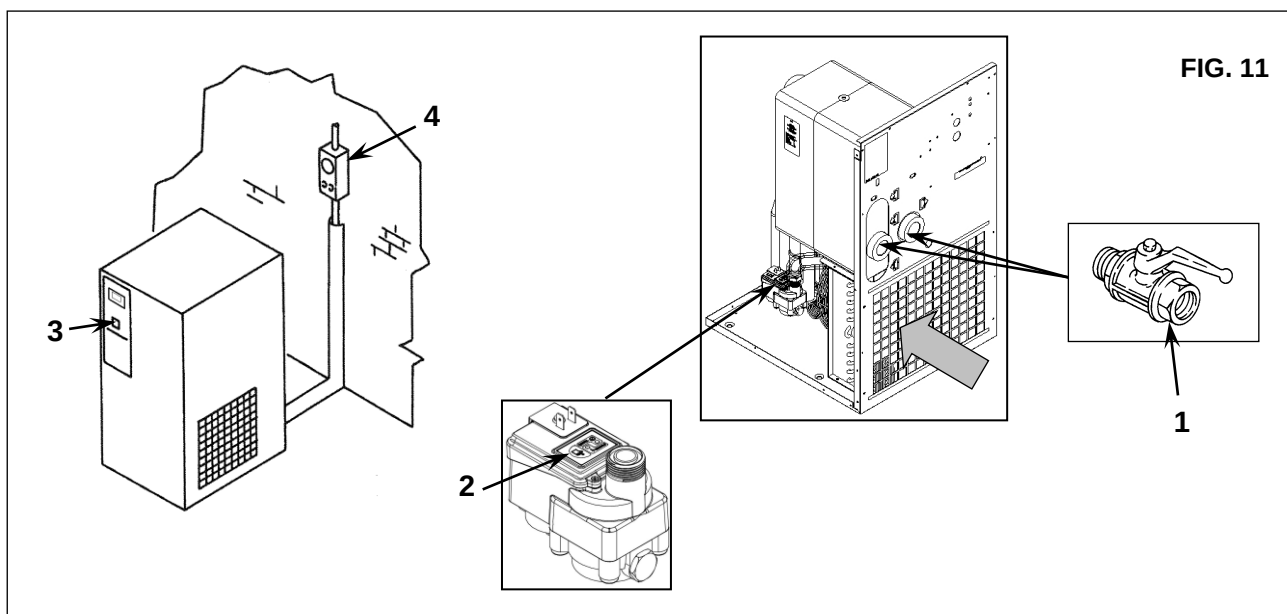

FIG. 11
- Close the taps Ref. 1 Fig. 11
- Release the pressure in the dryer by pressing the condensate drain "TEST" pushbutton locate on the steam trap Ref. 2 Fig. 11
- Switching the rocker switch in "0" position Ref. 3 Fig. 11
- Turn off the supply (see disconnecter switch Ref. 4 Fig. 11)